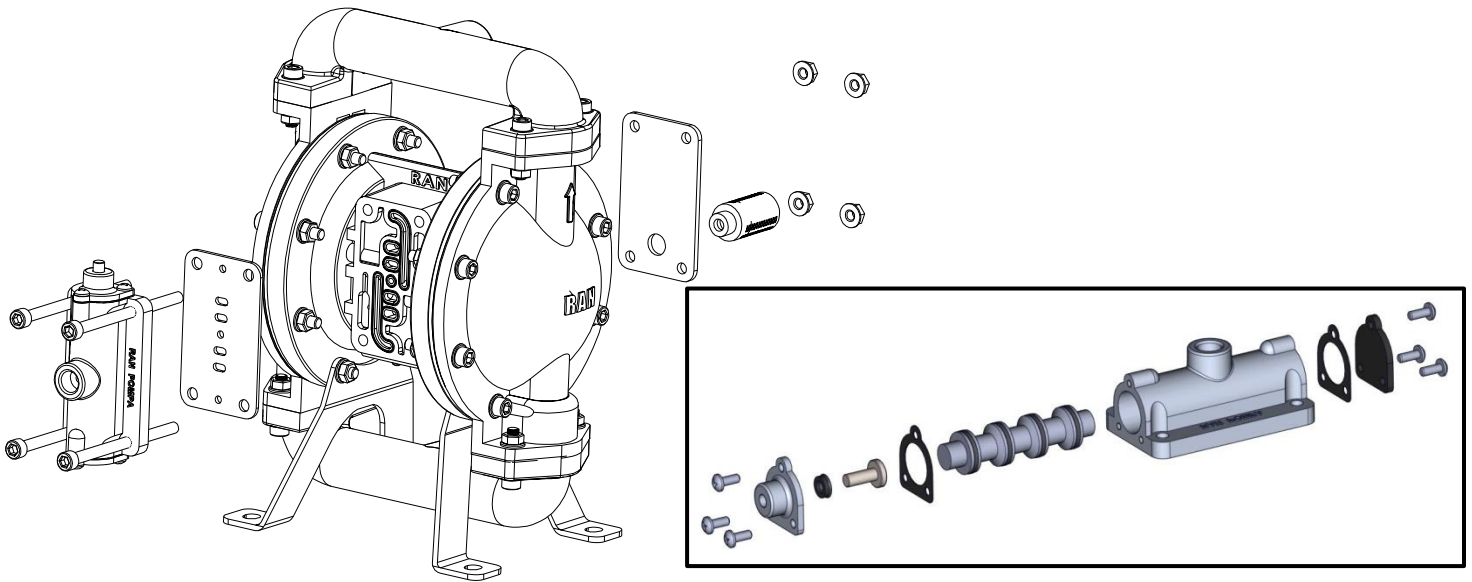

Figure 13a - Removing the air valve
- 5- Insert valve core then only one valve cover. Push valve core in with finger until it touches valve cover. Then insert other valve cover. (See Figure 13a)